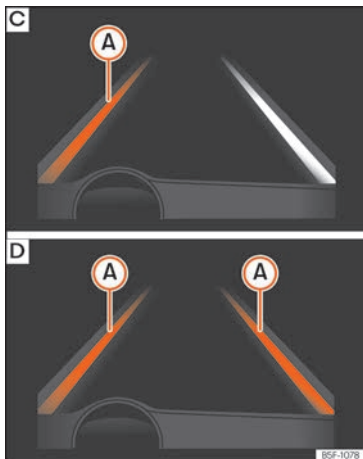

Fig. 279 On the instrument panel display: Indication on the Lane Assist system display (example 2).
- The system is operational, the highlighted line (A) indicates that there was a risk of involuntarily crossing the lane line and that the steering is being adjusted to correct the angle »»» Fig. 279 C.
- The two highlighted lines (A) light up simultaneously when both lane lines are recognised and the Lane Assist function is active »»» Fig. 279 D.